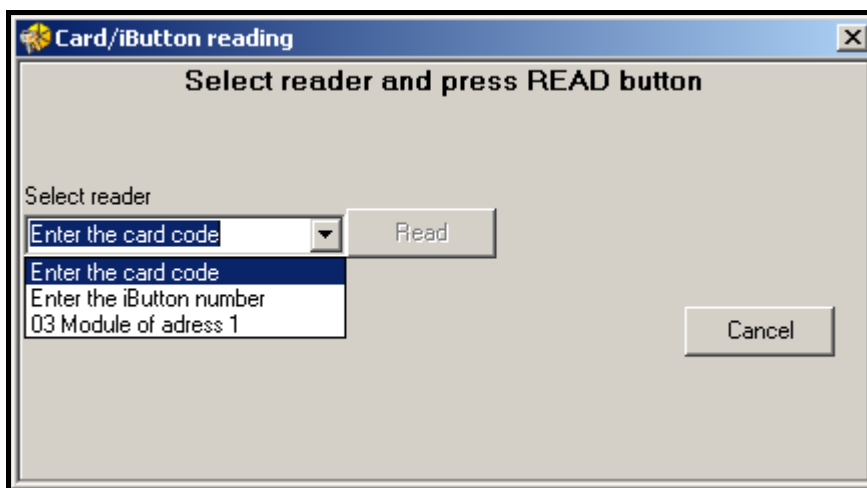

Fig. 27. Window for adding card / iButton to the user.
8. If the user is also to use the card / iButton, click with your mouse on the ADD button. The CARD / IBUTTON READING window will open (see Fig. 27).